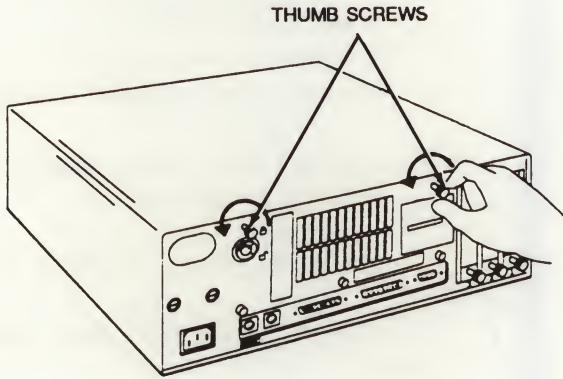

Figure 3-16 Model 50 Cover Mounting Thumb Screws
5. Locate the two cover mounting thumb screws on the back of the Model 50, as shown in Figure 3-16.